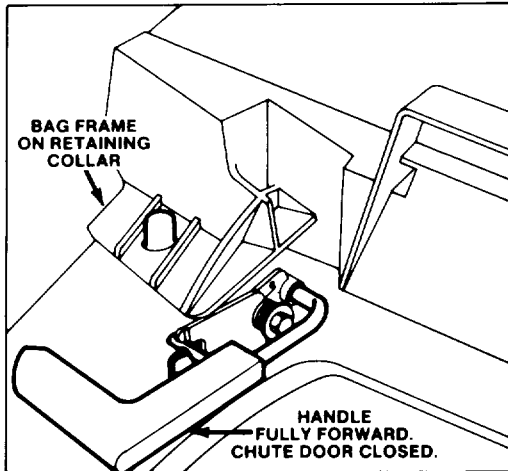

Figure 5
**MULCH** — In summer, when grass grows slower and is drier, mulch by closing chute door (Fig. 5). For convenience and protection, keep grass bag on mower.